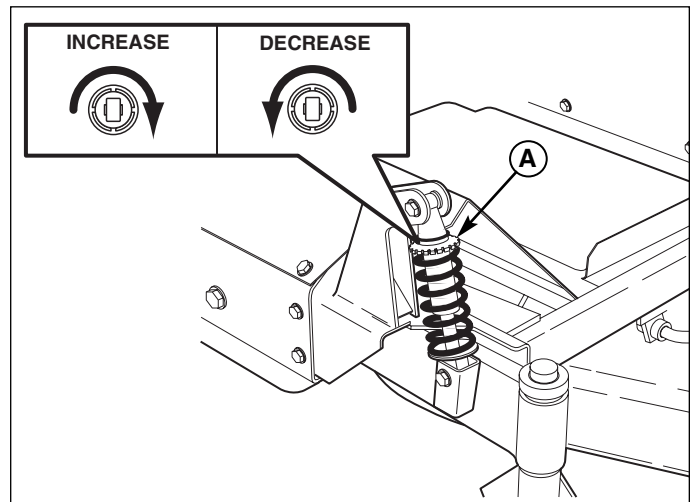

Figure 12. Front Suspension Adjustment
2. See Figure 12. Turn the pre-load adjustment collar (A) **CLOCKWISE** to increase the pre-load, turn **COUNTER-CLOCKWISE** to decrease the pre-load. Make sure both shocks are set to the same amount of pre-load.